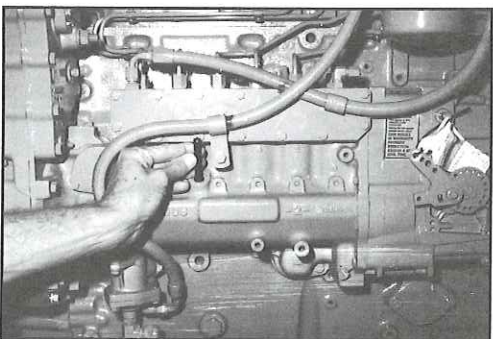

Fig. 6
2. Slowly rotate crankshaft counterclockwise until pin goes into groove. See Fig. 6.